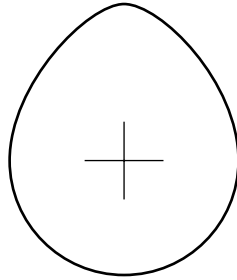

Fig. 5
- 8 (a) Fig. 5 shows a drawing of a cam.